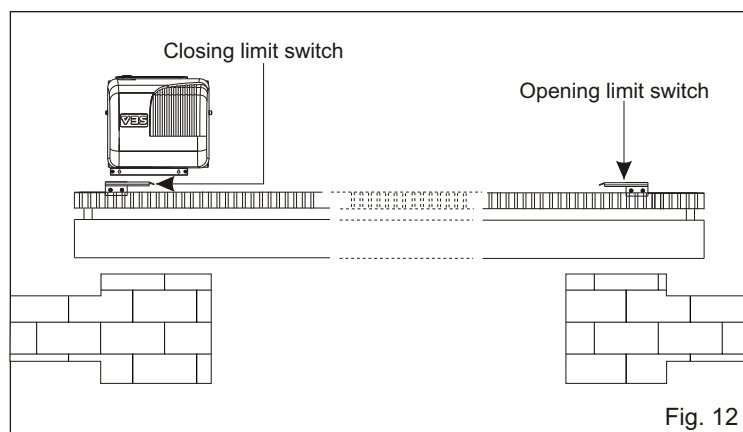

Fig. 12
6.1. To set up and adjust the limit switches in opening, follow the instructions written here (Fig. 12):
6.2. To set up and adjust the limit switches in closing, follow the instructions written here (Fig. 12):